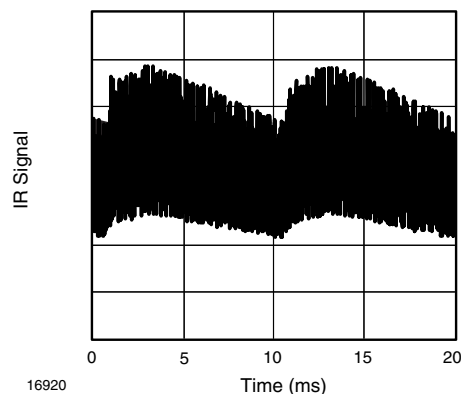

Fig. 13 - IR Disturbance from Fluorescent Lamp with Low Modulation
- Strongly or weakly modulated noise from fluorescent lamps with electronic ballasts (see fig. 13 or fig. 14)